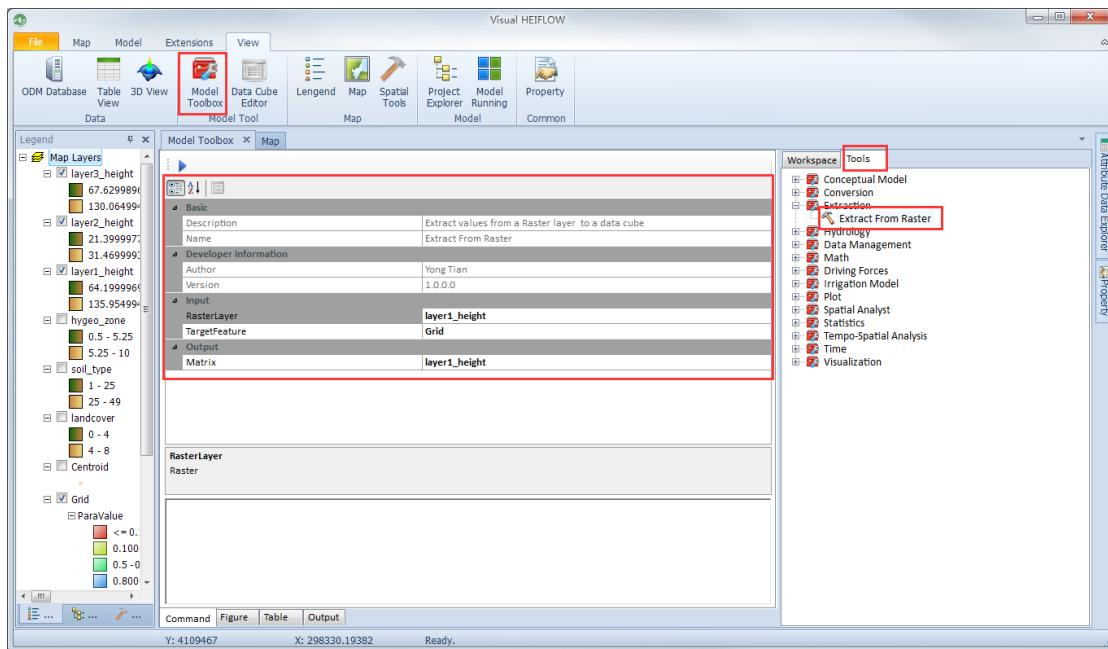

Figure 5-18. Model Toolbox interface
- 2) Select View -> Model Toolbox, select the Tools panel in the Model Toolbox , and locate to the tool “Extract from Raster ” (Figure 5-18).